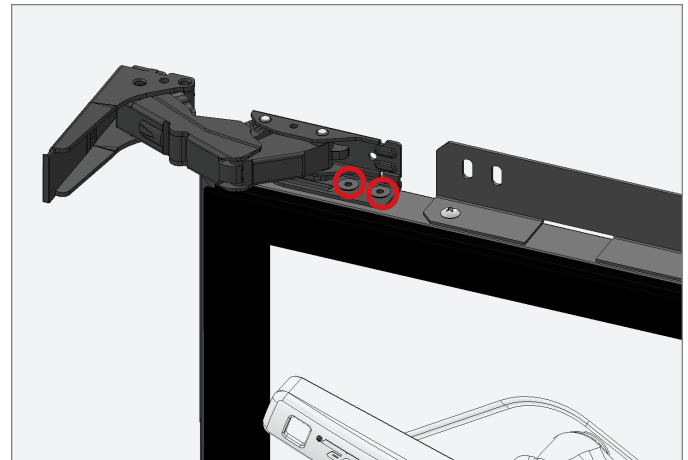

FIG. 4. Hinge door screw locations. Top hinge shown.
5. Remove the hinge assemblies from the door assembly. See fig. 4.